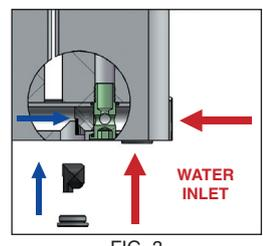

FIG. 3
- (fig. 3) Position of the diverter with the water inlet to the right of the radiator with pipes rising from the floor